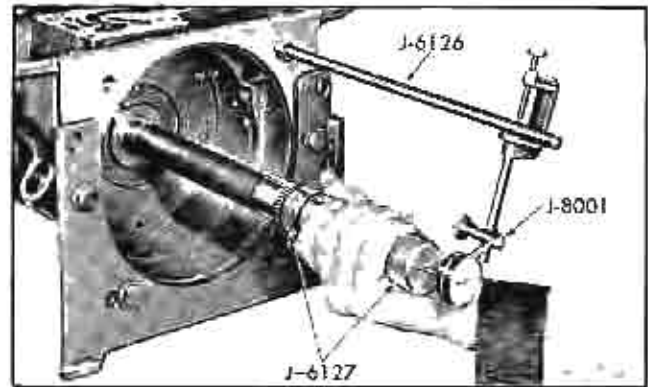

Fig. 155 Checking Mainshaft End Play
stalling Truarc snap ring on main shaft (Fig. 155). Attach fixture to collar by threading fixture securely onto collar.
c. Install J-8001 dial indicator (Fig. 155).